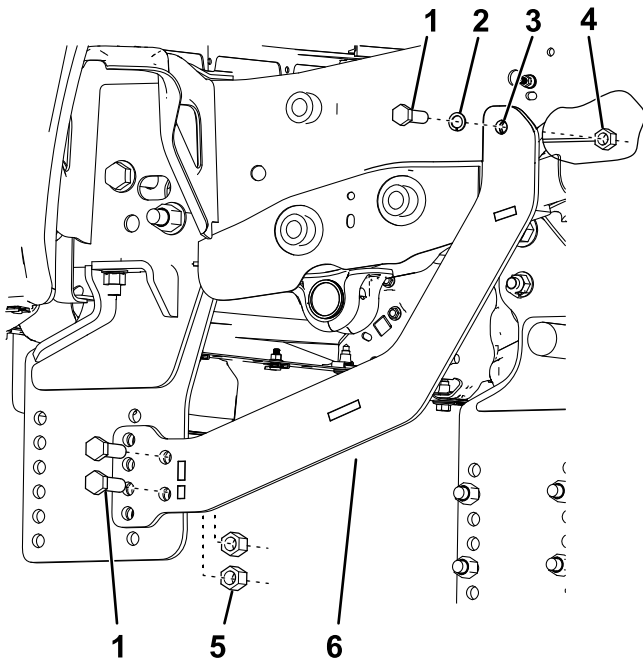

**Figure 4**
5. Loosely secure the bottom of the sideplate to the vehicle frame using a bolt (1/2 x 1-1/2 inches), washer, split lockwasher, and nut (Figure 4).